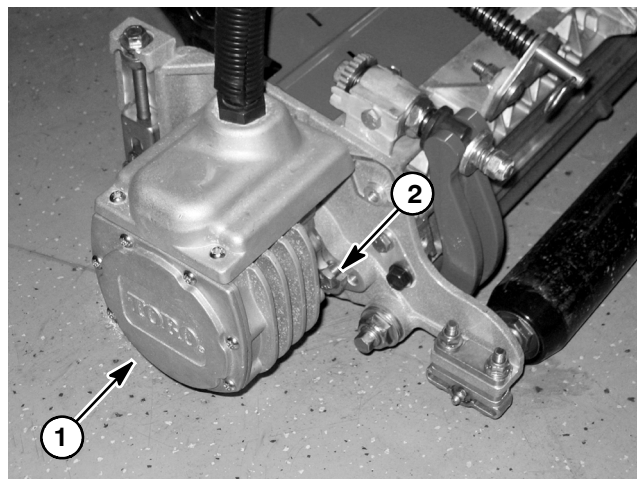
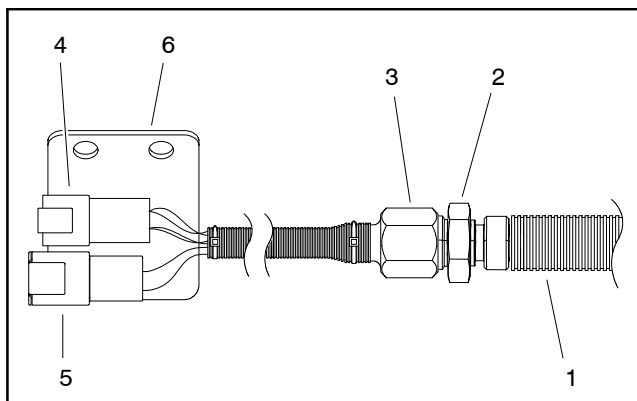

Figure 94
Figure 96
3. Remove cutting reel motor from cutting unit (Fig. 94):
A. Loosen two (2) cap screws that secure the cutting reel motor to the cutting unit side plate.
3. Make sure that the two (2) cap screws for the cutting reel motor are installed into the cutting unit side plate with approximately 1/2 inch (12.7 mm) of threads exposed on each screw.
4. Secure cutting reel motor to cutting unit (Fig. 94):
- B. Rotate the motor counterclockwise until the motor flanges are encircling the cap screws in the cutting unit side plates. Tighten two (2) cap screws to secure cutting reel motor to cutting unit.
5. If cutting reel motor was removed from machine, connect reel motor cable to machine wire harness (Fig. 96):
- A. Connect two (2) reel motor cable connectors to machine wire harness.